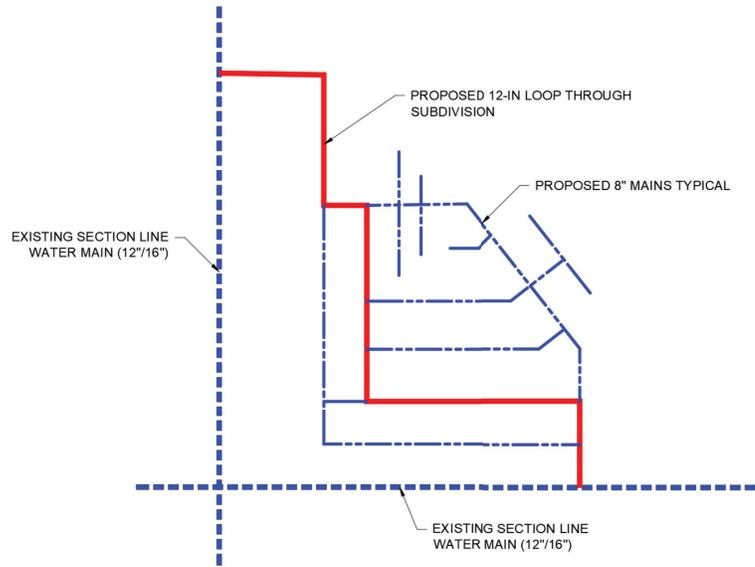

Figure 1 – 12” Water Loop
2.6. Unless directed otherwise from the Private Development Manager, each subdivision must have a minimum of two (2) separate connections to the Oklahoma City water system with a valve between point of water supply connections establishing an independent water supply point. A twelve (12) inch main must be installed through the development in order to supply water through the development and to establish a looped system. See Figure 1.